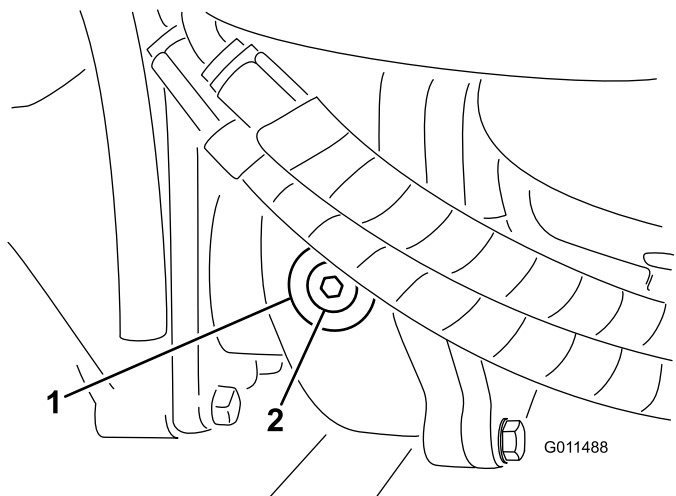

Figure 81
2. Remove the check/fill plug from the left side of the gear box and ensure that lubricant is up to the bottom of the hole (Figure 81).